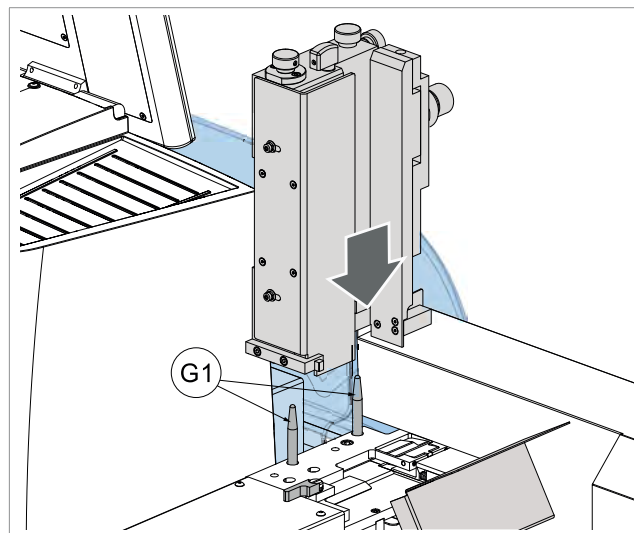

Fig. 37
- 3) Insert the top loader, centering on the pins (G1) (Fig. 37).